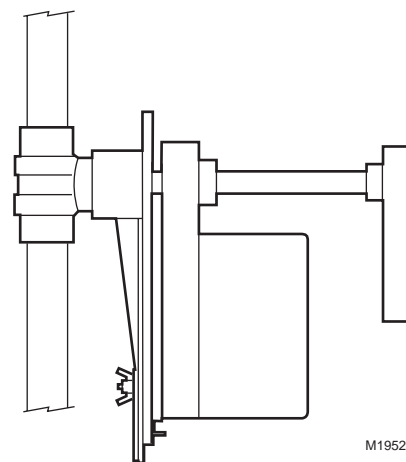

Fig. 1. Vertical valve installation.
- (1) Clockwise to increase AB to B flow.
- (2) Counterclockwise to increase AB to A flow.
6. Valve must be mounted with the actuator/bracket above the valve body. Do not install the valve with the stem below horizontal or upside down. (See Fig. 1 and 2.)